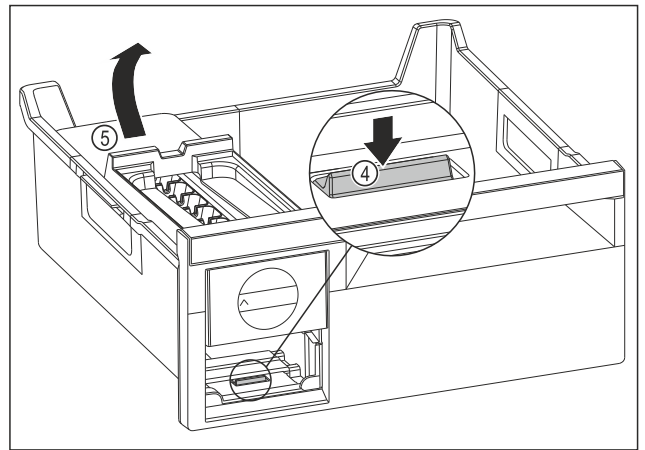

Fig. 121
- ▶ Removing the EasyTwist-Ice body: Use your finger to push the tab Fig. 121 (4) down and use your other hand to lift the EasyTwist-Ice body Fig. 121 (5) from behind at the same time.